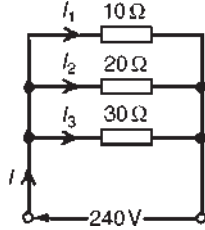

Figure 5.22
- (b) The parallel circuit is shown in Fig. 5.22. The equivalent resistance R_T of 10Ω , 20Ω and 30Ω resistance's connected in parallel is